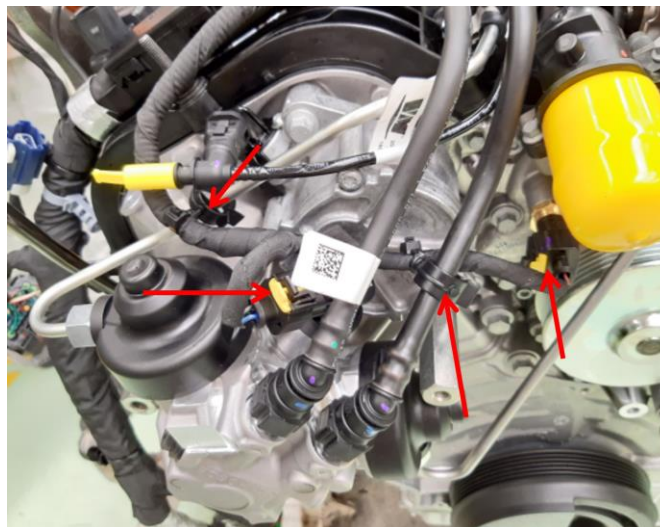

Figure 8.
14. Secure the harness to the high-pressure fuel supply, and fuel injection pump supply lines. Connect the electrical connectors for the FQS and Coolant Temperature Sensor. Please see (Figure 8).